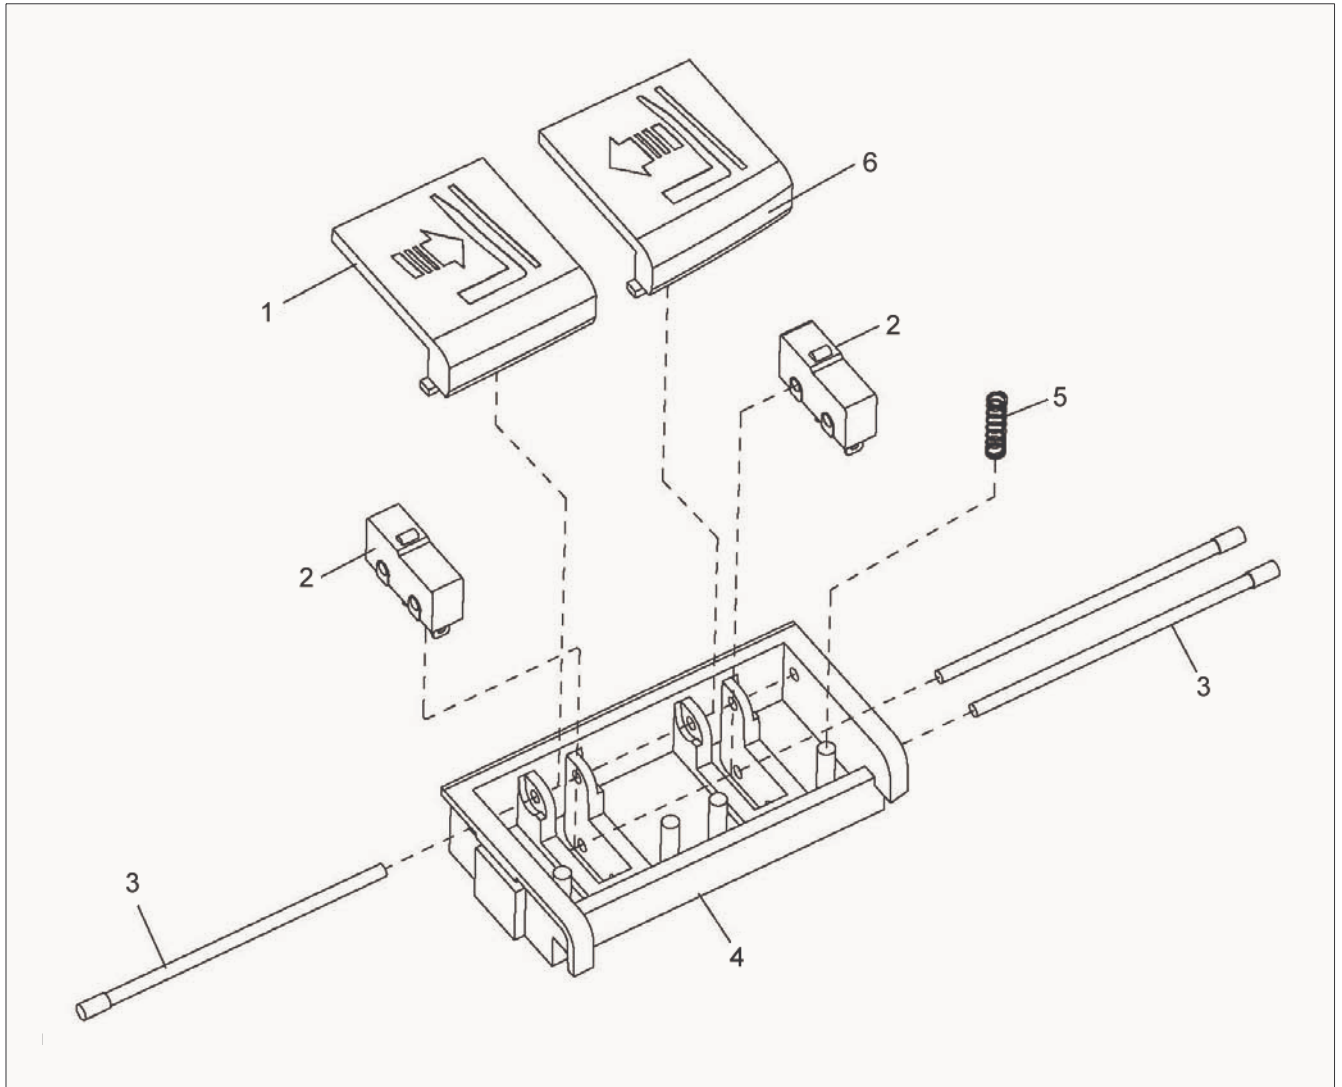

Figure 5-5 Left Lift/Lower Switch Assy (Right Similar)
3. Remove pin (3, Figure 5-5) and switch assembly (2 or 4, Figure 5-4) from the cap (1)
4. Remove two pins (3, Figure 5-5), two switches (2) and four springs (5) from bracket (4).
5. Position the new switches (2) and four springs (5) in bracket (4) and secure with two pins (3).
6. Position switch assembly (2 or 4, Figure 5-4) in cover (1) and secure with pin (3, Figure 5-5).